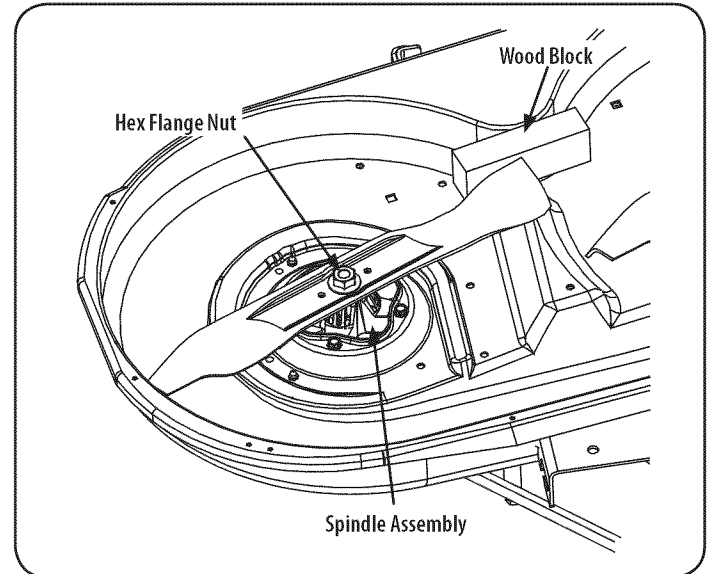

Figure 37
- Use a  $1\frac{5}{16}$ " wrench to hold the hex nut on top of the spindle assembly when loosening the hex nut securing the blade. A block of wood may be placed between the deck housing and the cutting edge of the blade to help in breaking loose the hex nut securing the blade. See Figure 37.